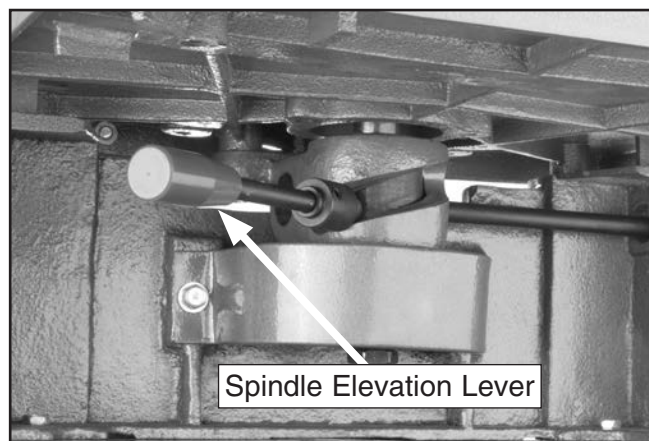

Figure 21. Spindle elevation lever.
2. Move spindle up or down with elevation adjustment lever, shown in **Figure 21**, until desired spindle height is obtained.